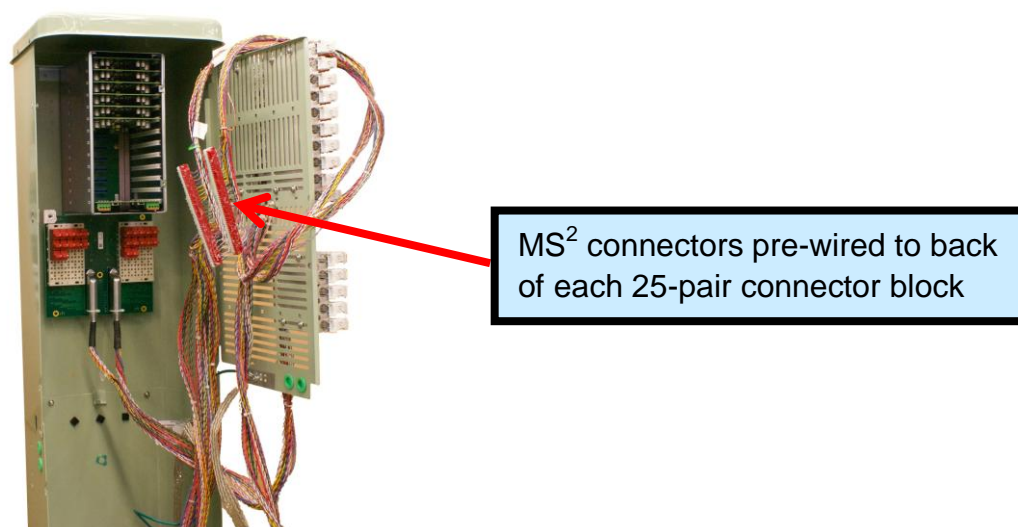

Figure 10: View of 3M MS2 connectors to attach binder pairs from the DSLAM and CPE devices
- **STEP 5:** Connect the 3M MS2 connectors (see Figure 10) from the cross connect modules to each 25-pair cable in the binder from the DSLAM.